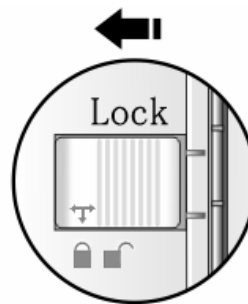

Figure 2
2. Before you moving the scanner, please make sure to turn off your computer first and keep the locking switch NOT PRESSED (as shown Figure2), in order to avoid some damage to optical module during the transportation.